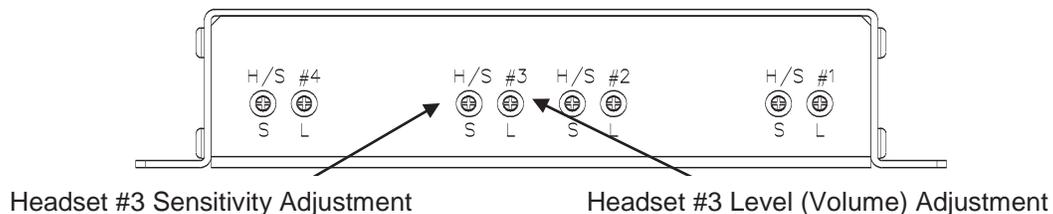

Figure 1: Headset Volume and Sensitivity Controls
The headset volume and sensitivity controls are located on the rear of the unit as shown in Figure 1 below. Each headset position has a level trimpot (L) and a sensitivity trimpot (S) that controls MIC/VOX operation.